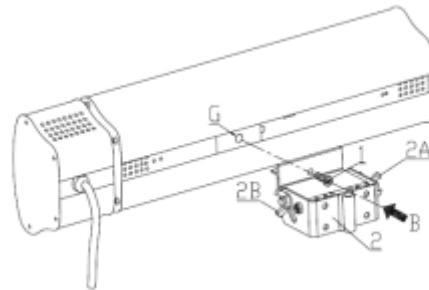
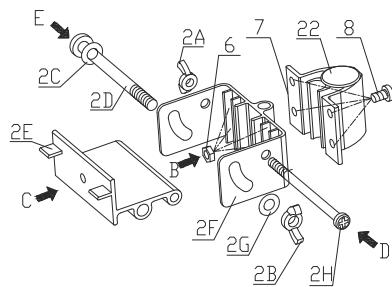

Fig. 3
Fig. 6
4. Connect the hardware to the instructions shown in Fig. 3, 4, 5
5. Hang the heater on the smooth surface of the wall with the observance of the distance specified in item 6.1. Make sure that the mounting screws firmly fastened.
6. If necessary, install the heater, bracket, follow the instructions shown on Fig. 6, 7, 8, 9 and specified in item 6.3
On Fig. 6, 7, 8, 9 shows stepwise instructions on assembly and installation of infrared heater on the mobile rack.